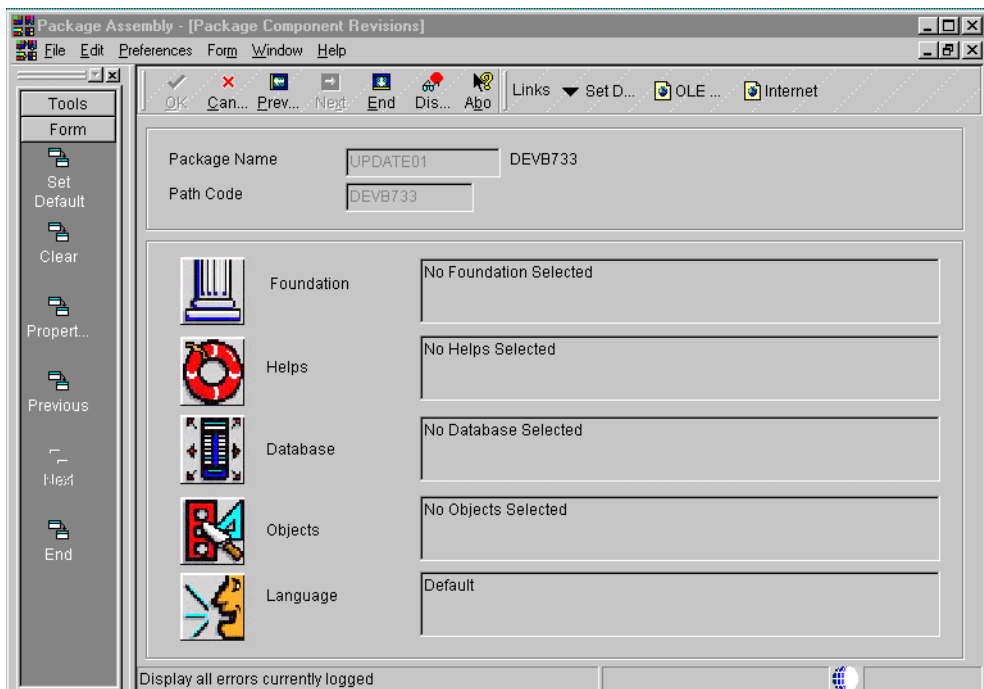

Figure 149. Package Component Revisions form
11. Click **Next** to display the Package Component Revisions form (Figure 149). This form allows you to see at a glance the current foundation, help, and database locations, as well as the objects in the package and any language selection.